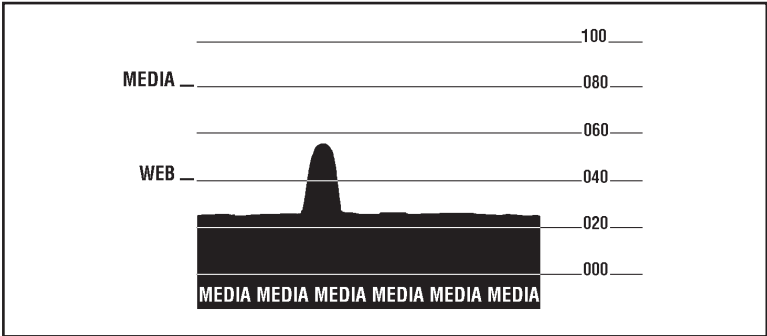

Figure 1. A300 Sample Media Sensor Profile
5. A profile of the media sensor settings is printed on the label. (See the examples in Figures 1 and 2). The printer then saves the new settings in memory and is ready for normal operation.
Inconsistent print quality, such as voids in bar codes or graphics, may indicate a dirty printhead. For best results, perform the cleaning procedures in Table 4. For the location of these printer parts, refer to Figure 1 on page ii.